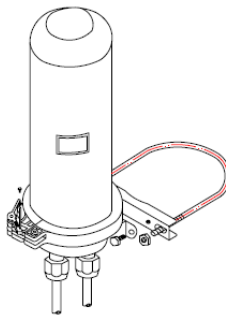

Figure 6
6.1 Pole application: Fix metal hoop and transom to the pole. Please refer to figure 6